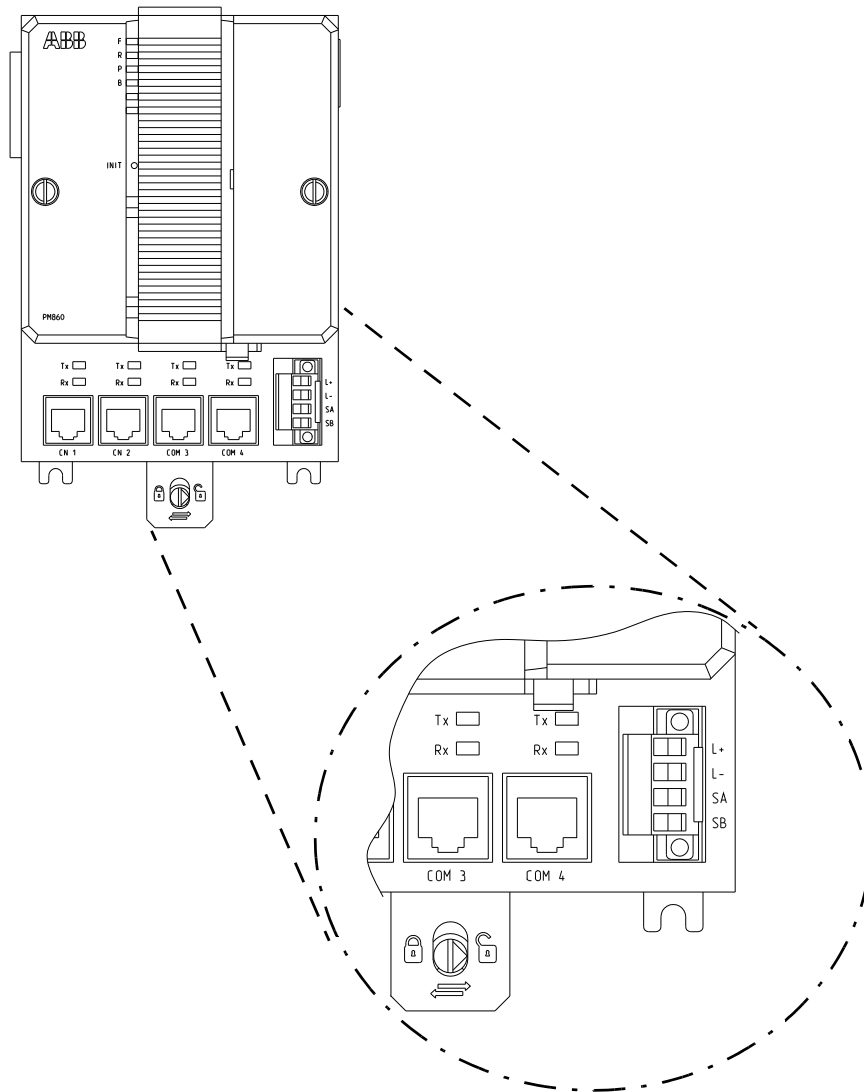

Figure 2.13: SA/SB Connectors for Supervision Signals
- a. Connect the power leads and, if applicable, power supervision signals from SS82x to screw terminals SA and SB (see Figure 2.13 on page 84).